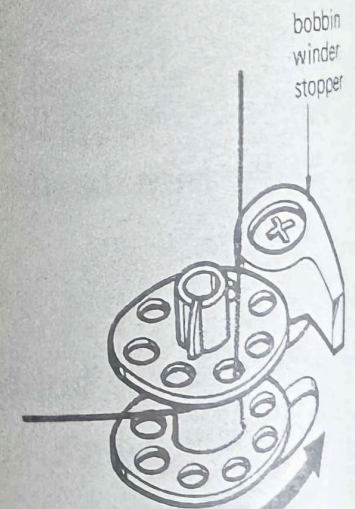

Fig. 3
Raise presser foot and the lever at “DARNING ⌘” position. Then machine feed is disengaged permitting the free movement of fabrics. (Fig. 3)
4. Push the spindle against the bobbin winder stopper. (Fig. 3)